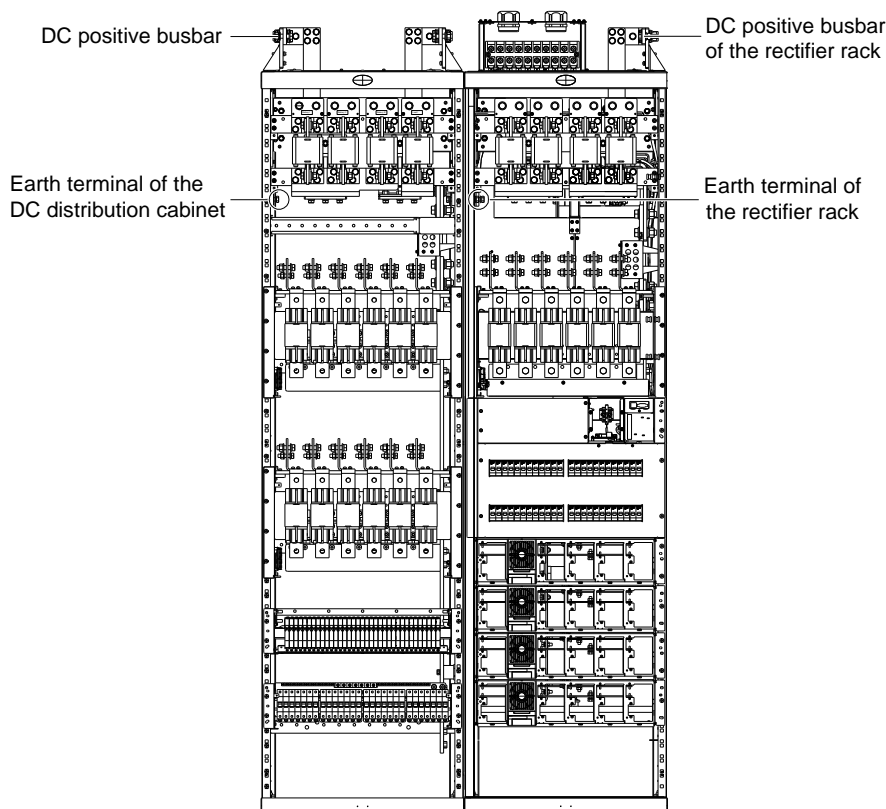

Figure 3-8 Earth terminal of the rectifier cabinet and the DC distribution cabinet
1. Use an earth connection cable to connect the earth terminal of the rectifier cabinet to the earth terminal of the DC distribution cabinet, as shown in Figure 3-8.
2. Use earth cable to connect the positive busbar of the DC distribution cabinet with the earth bar in the equipment room. If only configuration the rectifier cabinet, connected the earth cable to the positive busbar of the rectifier and earth bar in the equipment room. The positive busbars of the DC distribution cabinet and the rectifier cabinet are shown in Figure 3-8.